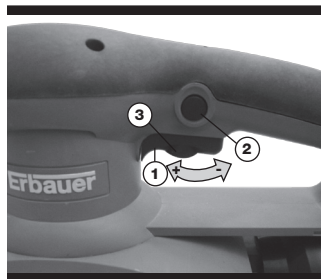

Fig. 1
Depress on/off switch (1) then lock-on button (2) (See Fig.1), release on/off switch first and lock-on button second. Your switch is now locked on for continuous use. To switch off your sander just depress and release the on/off switch.
Adjust the variable speed control(3) to increase or decrease the speed according to the material and sanding sheet specification to be used (also possible during no load operation) (See Fig.1). See the table below for general guidance on speed selection. Avoid prolonged use at very low speed as this may damage your sander's motor.